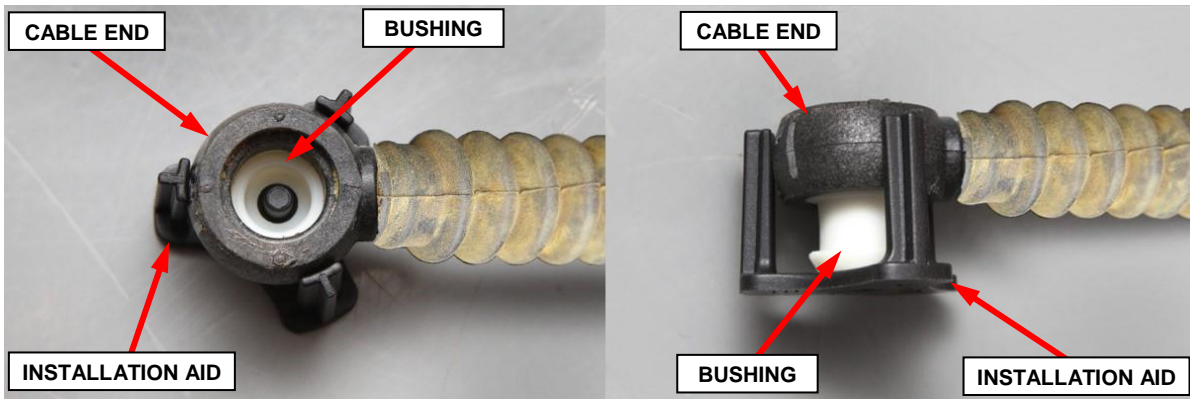

Figure 16 – New Bushing and Installation Aid Positioned on Cable End
11. Position the NEW bushing and installation aid to the cable end (Figure 16).